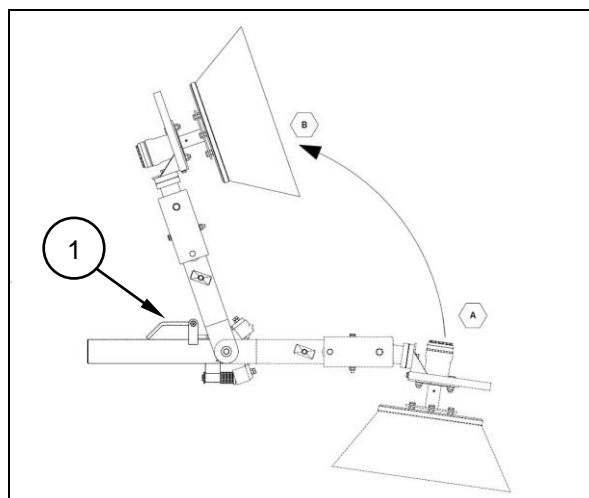

Fig. 4.11
- Swing side brush (Fig. 4.11) upwards and secure it in place (1).